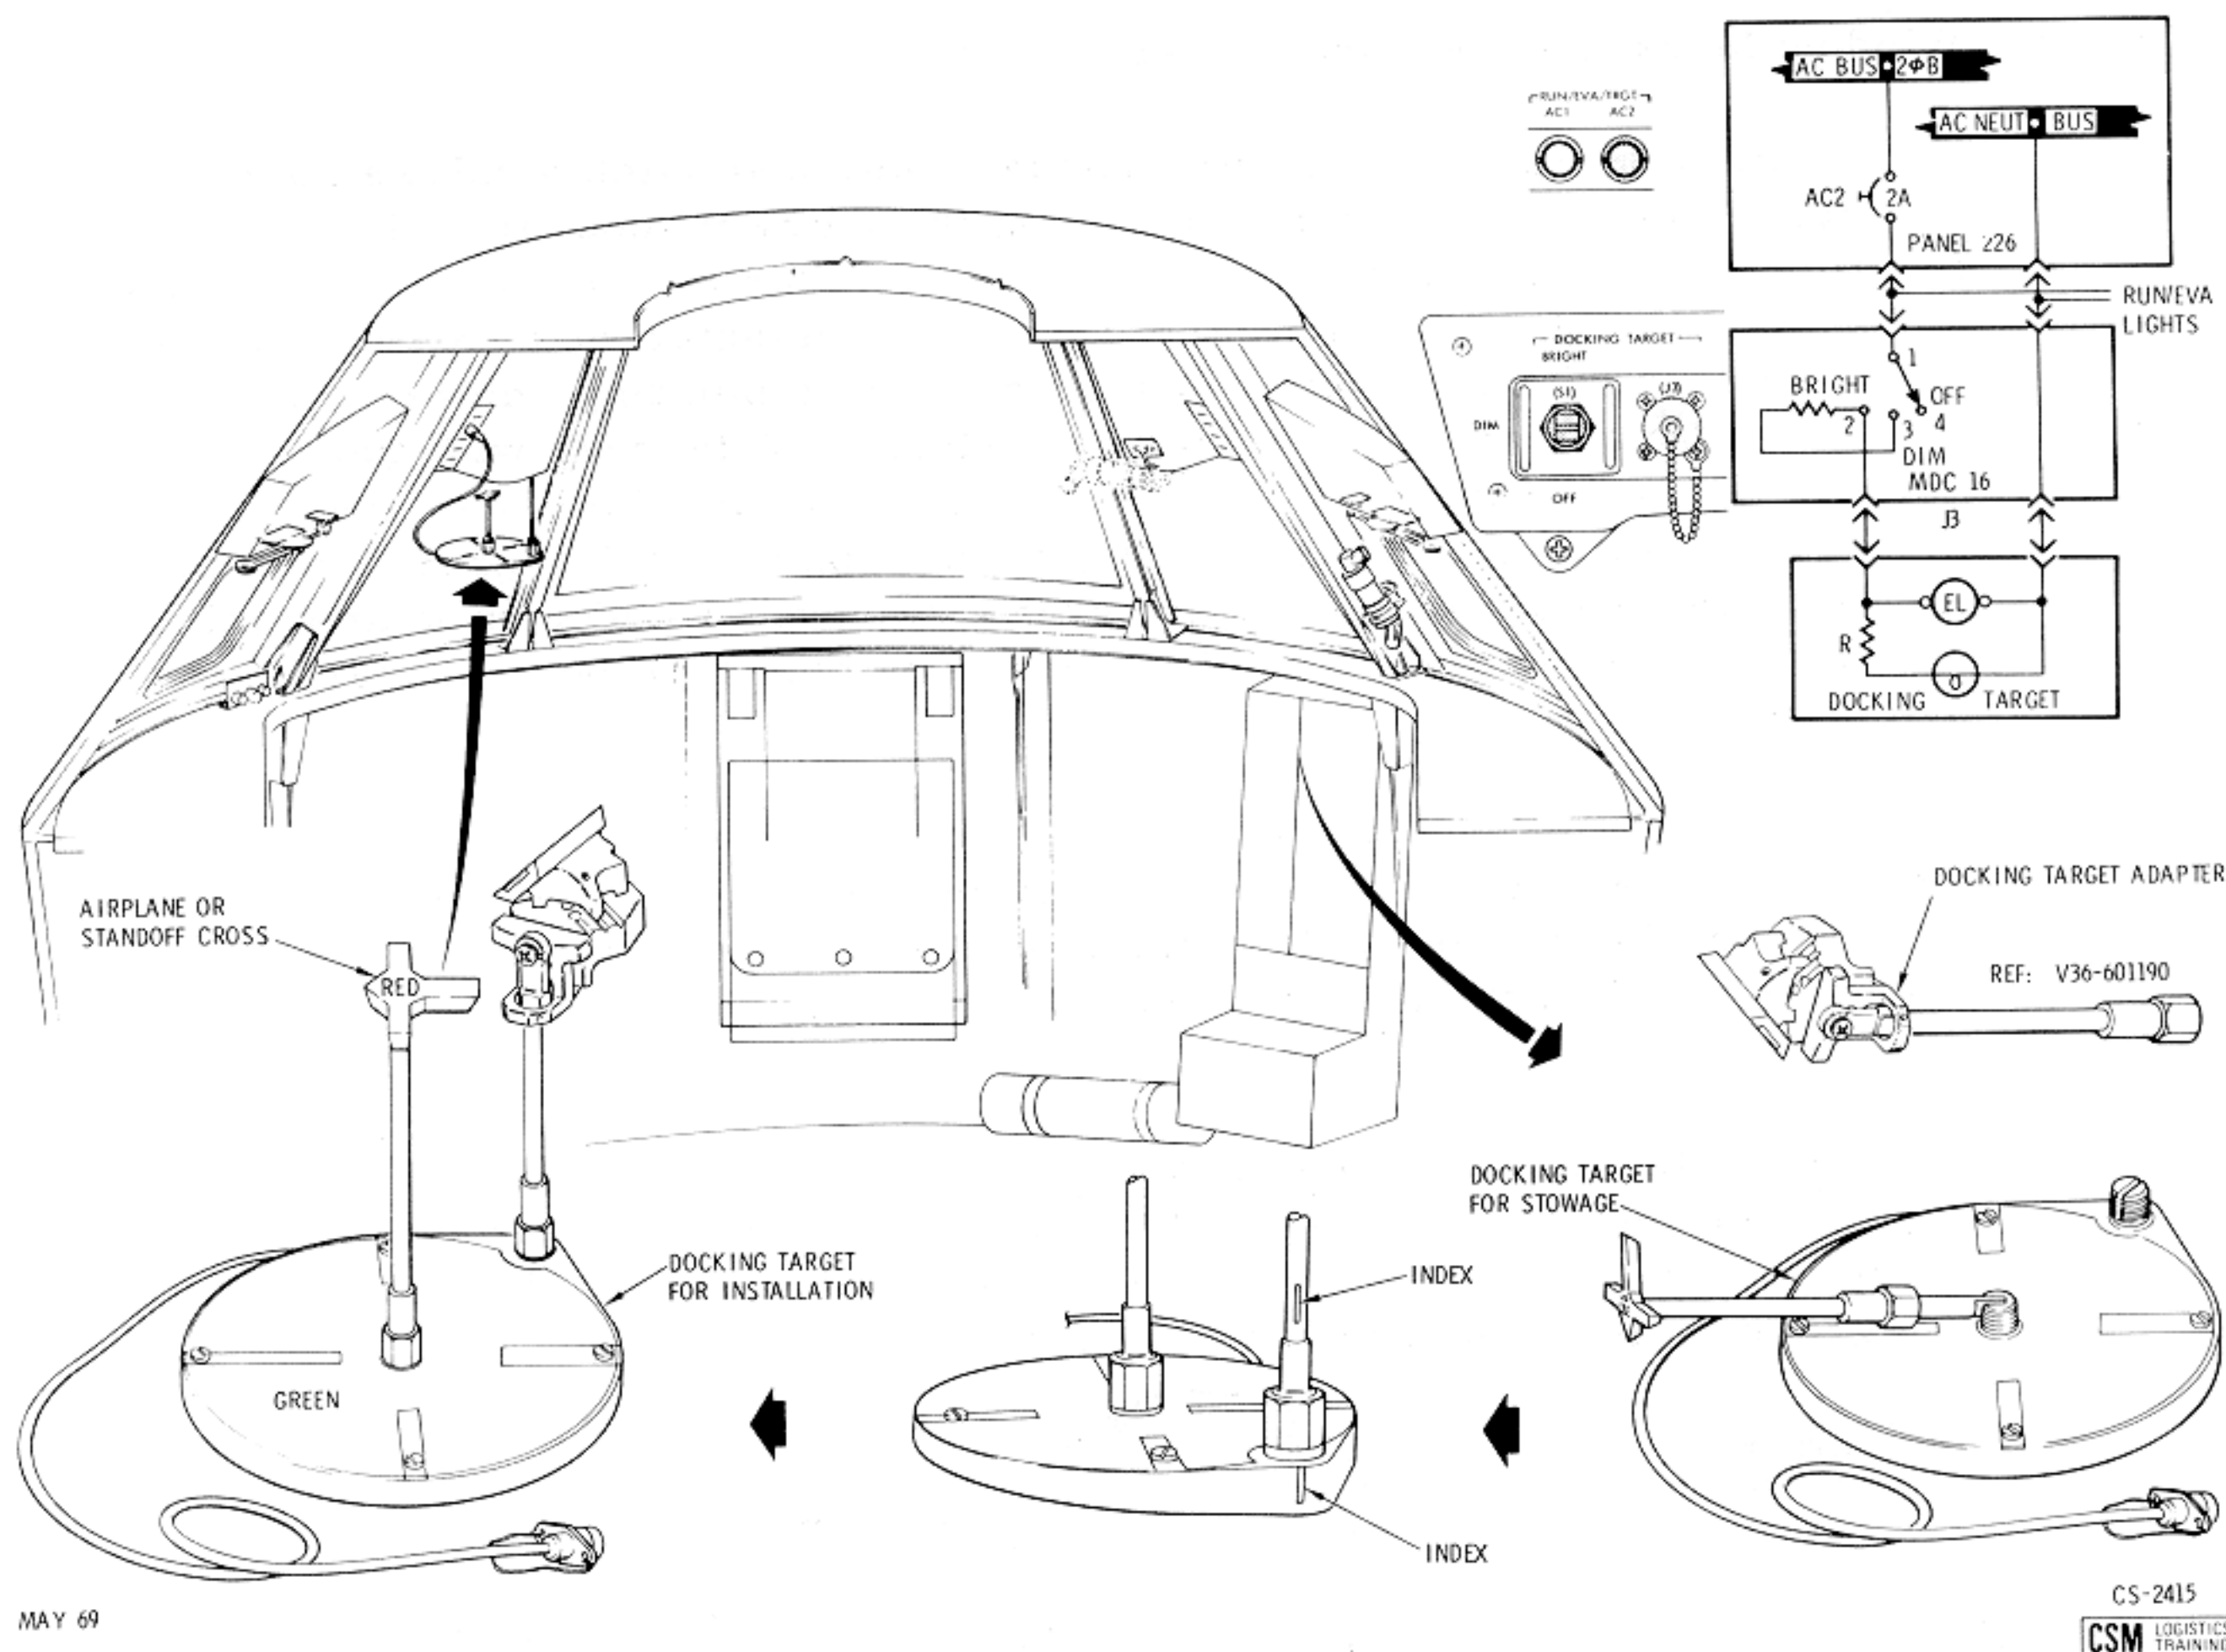

Figure 2.12-21. LM Active Docking Target
2.12.4.1.4 LM Active Docking Target (Figure 2.12-21).